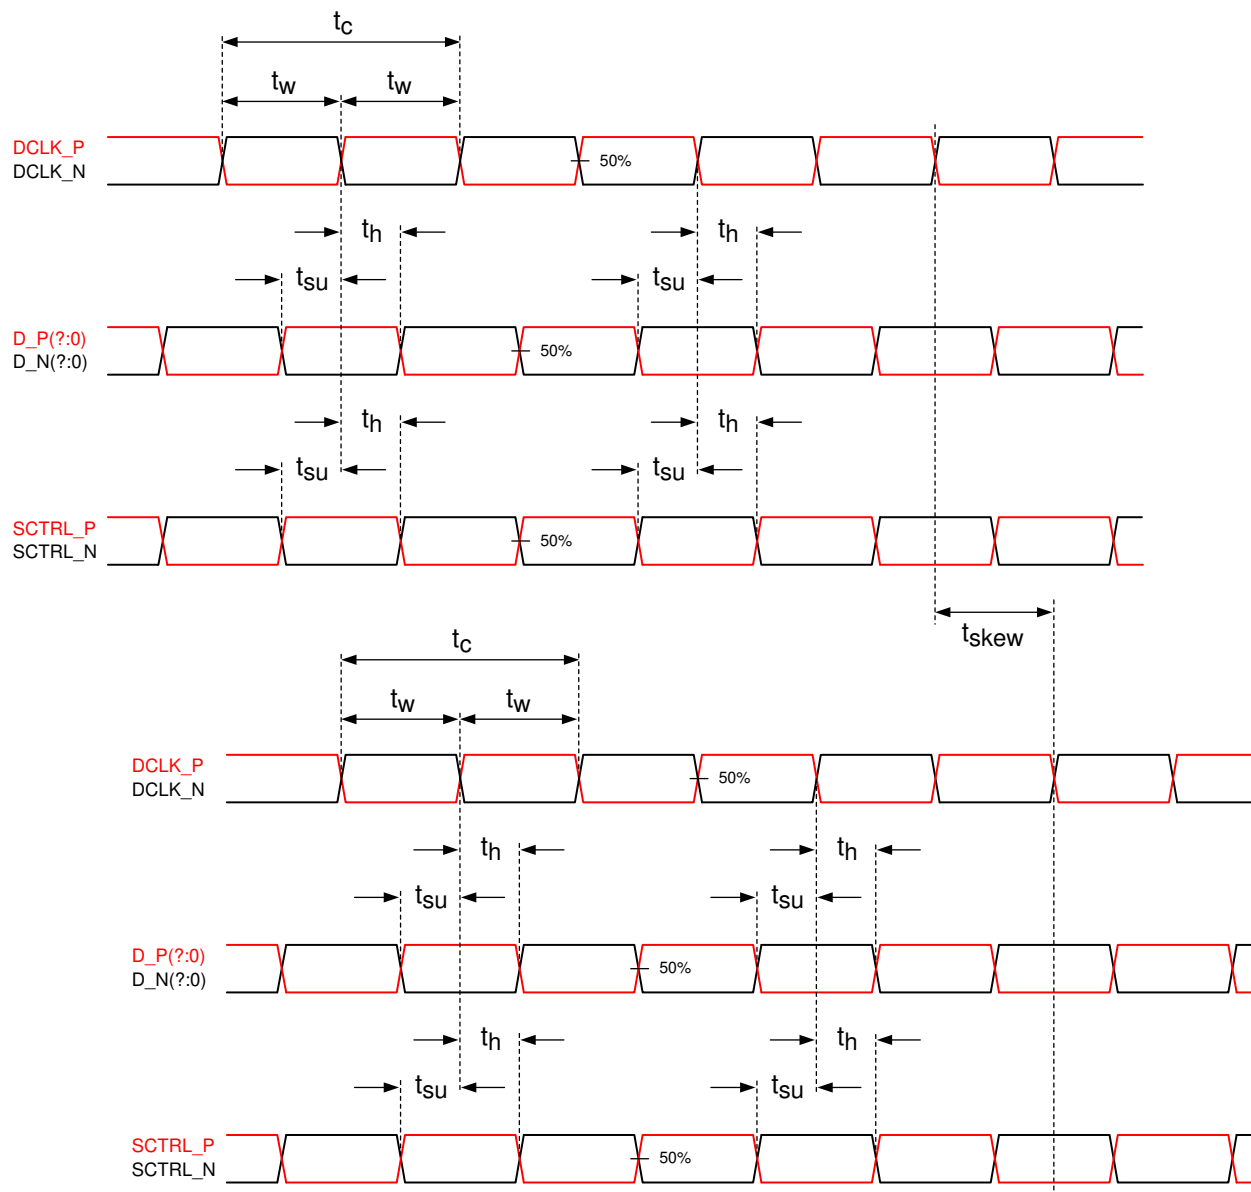

Figure 5-6. Timing Requirements
- (9) See LVDS Timing Requirements in Section 5.8 and Figure 5-6.